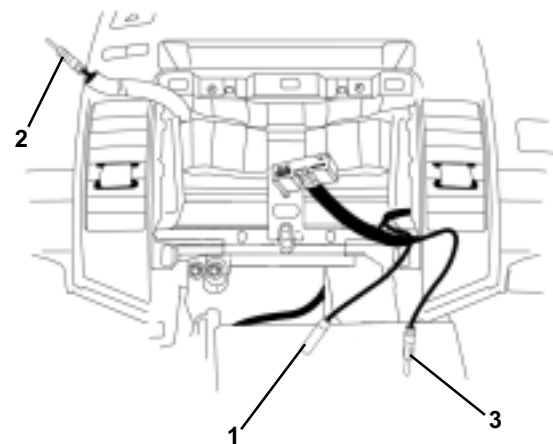

FIGURE 36
NOTE: MAKE SURE THERE IS ENOUGH SLACK TO MAKE CONNECTIONS TO THE FM MODULATOR AND CIGARETTE LIGHTER POWER. (SEE FIGURES 36, 39 AND 41)
3. CONNECT THE FM MODULATOR FEMALE ANTENNA PLUG (1) TO THE VEHICLE ANTENNA MALE PLUG (2). BE SURE TO ALLOW ENOUGH SLACK TO CONNECT THE FM MODULATOR MALE ANTENNA PLUG (3) TO VEHICLE AUDIO UNIT. (SEE FIGURE 36)
1. ATTACH THE DVD ASSEMBLY TO THE TRIM RING USING A SCREWDRIVER AND THE 11 TRIM RING SCREWS. (SEE FIGURE 36)